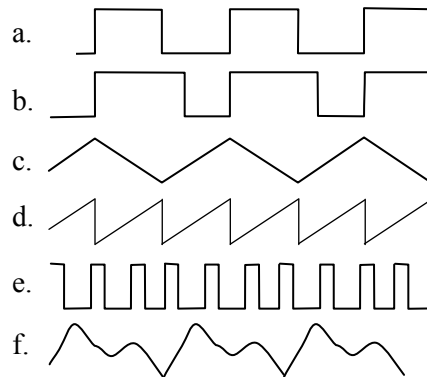

Fig. 2.50
*Oscillators (pulsers or signal generators)*, produce periodic signals of different shape, usually without an input pulse train. They may be linear and nonlinear devices with or without the input terminals. Some typical non-sinusoidal repetitive signal waves that pulsers generate are given in Fig. 2.50. They are as follows: a – meander, b – rectangular, c – triangle, d – sawtooth, e – pulsating, f – arbitrary signal. Most of the oscillators consist of resistors, inductors, and capacitors. In addition, diodes and transistors are used in nonlinear devices.